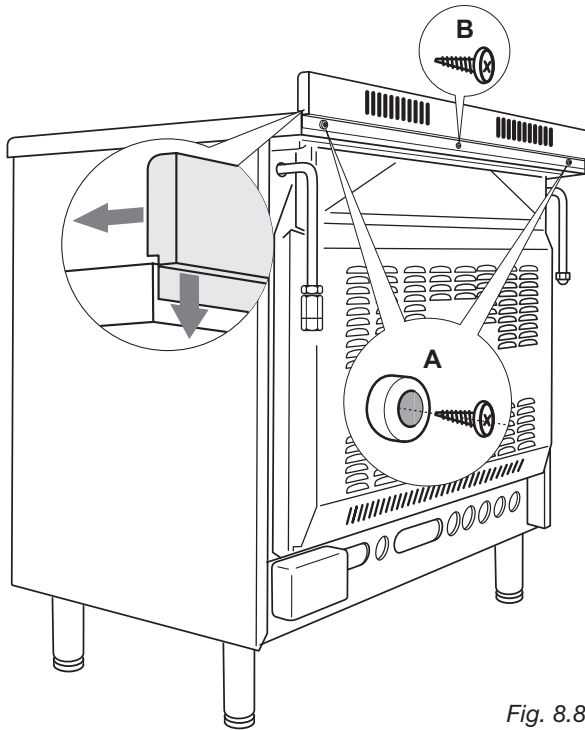

Fig. 8.8
- Assemble the backguard as shown in figure 8.8 and fix it by screwing the central screw “B” and the spacers “A”.